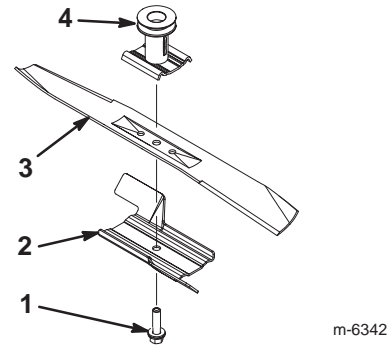

Figure 23
2. Remove the blade bolt, the accelerator, and the blade (Fig. 23).
1. Install a sharp, balanced Toro blade, the accelerator, and the blade bolt (Fig. 23).